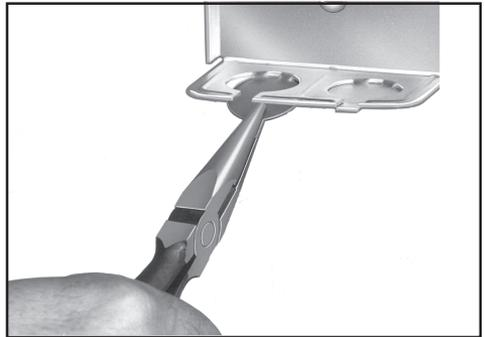

Fig. 3 - Removing slotted knockouts.
1. To remove the slotted knockouts, bend down and break off with a long nose pliers. See Fig. 3.